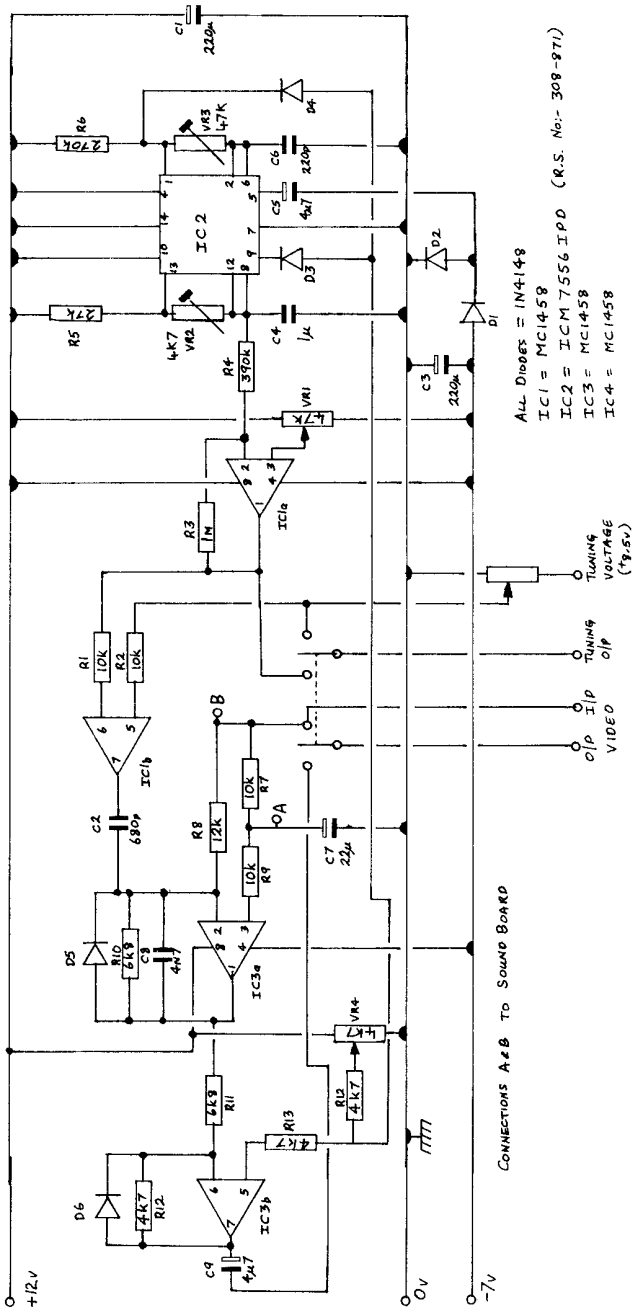

Fig.1 Power Supply and Video Processing
1. SCANNER AND POWER SUPPLIES (Fig.1)
2. VIDEO PROCESSING (Fig.1)